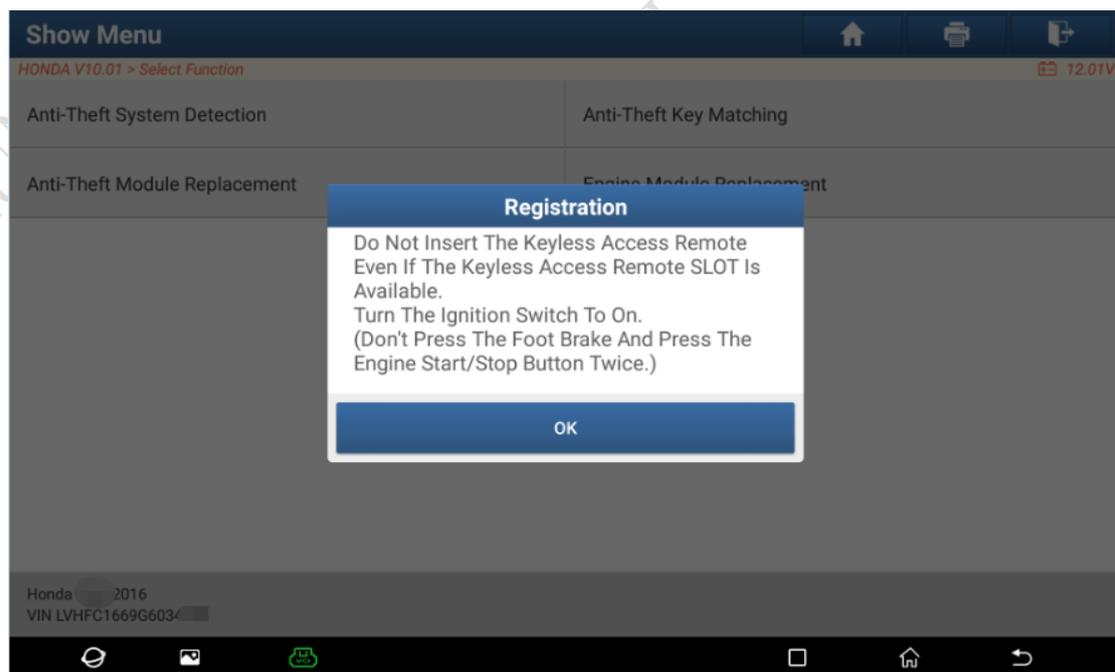

Figure 6
6. Turn the ignition switch to ON, as shown in Figure 6.